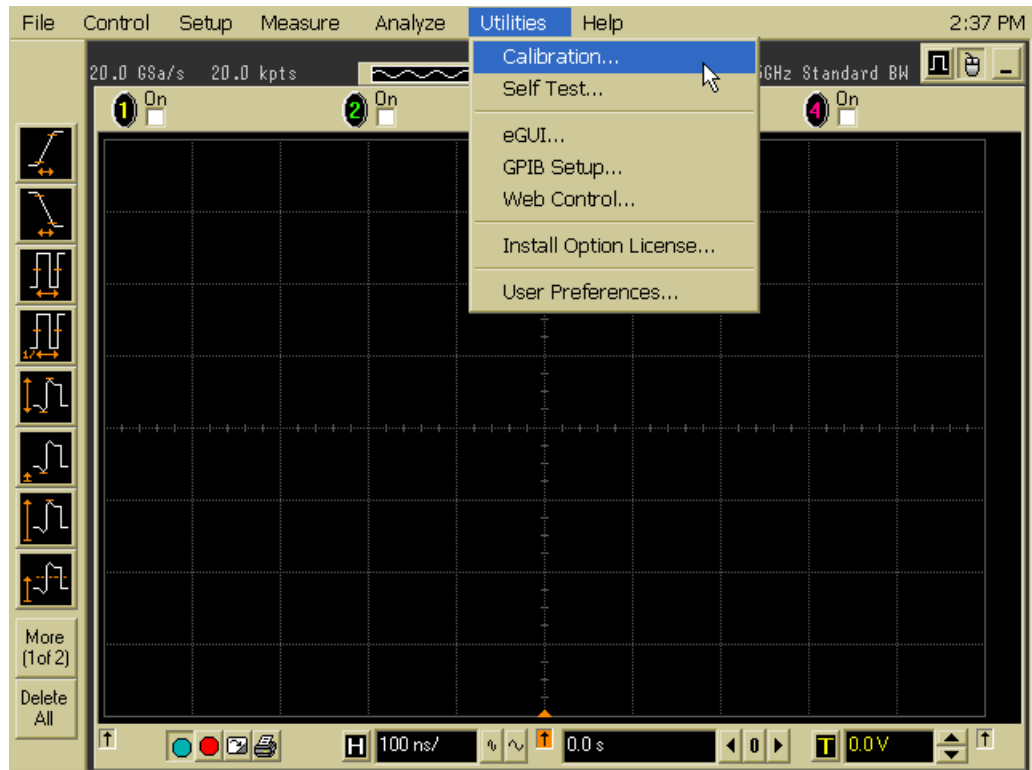

Figure 58 Accessing the Calibration Menu
- 3 Referring to Figure 58 below, perform the following steps: